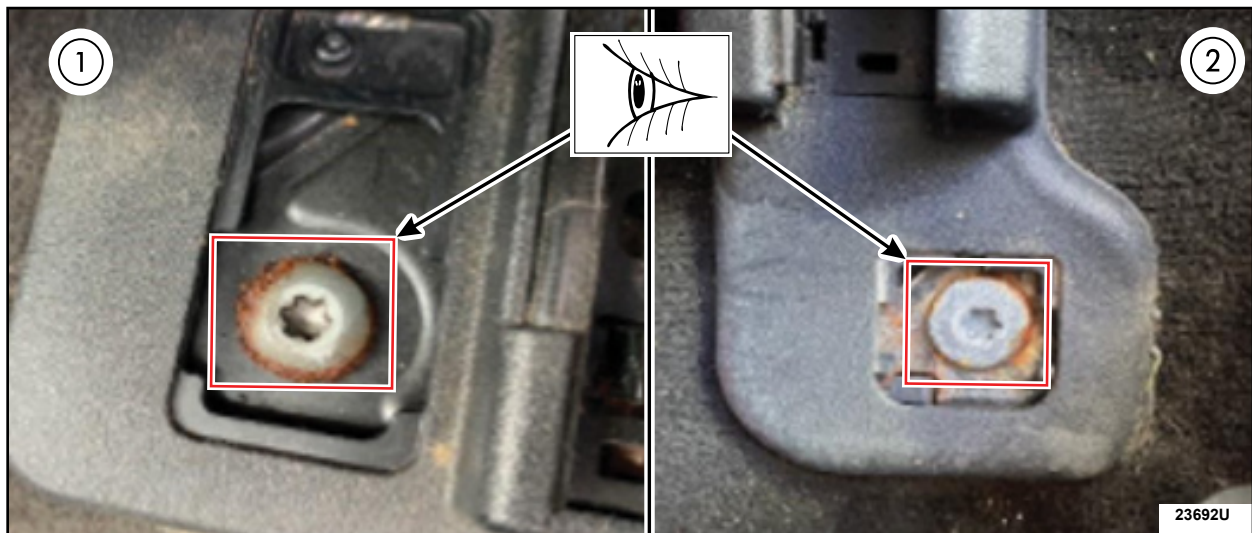

FIGURE 11
- Is red rust present on the lower surface of the bolt and seat track bracket mounting surface? See Figure 11.